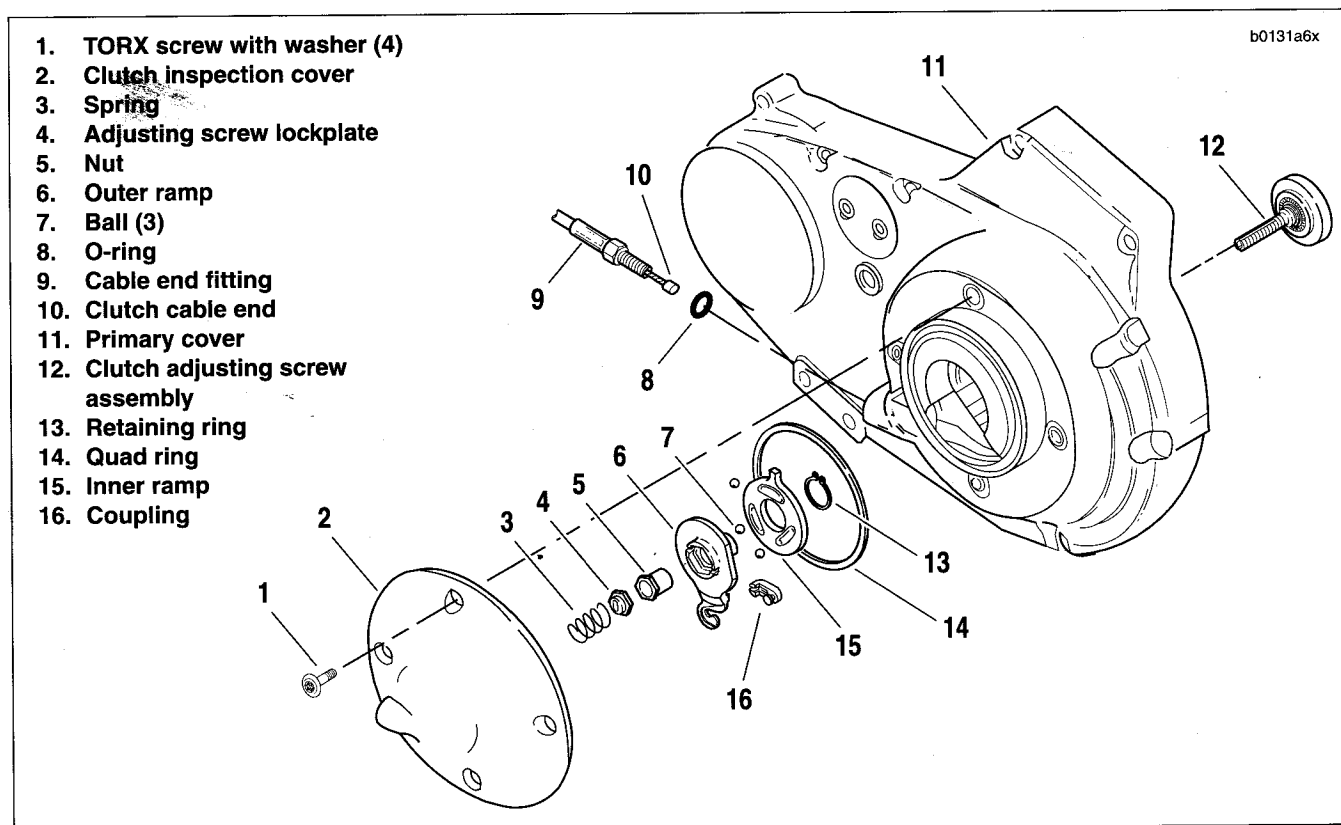

Figure 2-132. Clutch Release Mechanism
2. See Figure 2-132. Remove four TORX screws (1) with washers and clutch inspection cover (2). Do not damage or dislodge quad ring (14) in primary cover (11).
3. Slide spring (3) with attached hex lockplate (4) from flats of adjusting screw (12).
4. Turn adjusting screw clockwise to release ramp and coupling mechanism. As the adjusting screw is turned, ramp assembly moves forward. Unscrew nut (5) from end of adjusting screw.
5. Remove hook of ramp (6) from button at the rear of cable end coupling (16). Remove cable end (10) from slot in coupling.
6. Turn cable end fitting (9) counterclockwise to remove clutch cable lower section from primary cover (11). Remove O-ring (8) from cable end fitting.